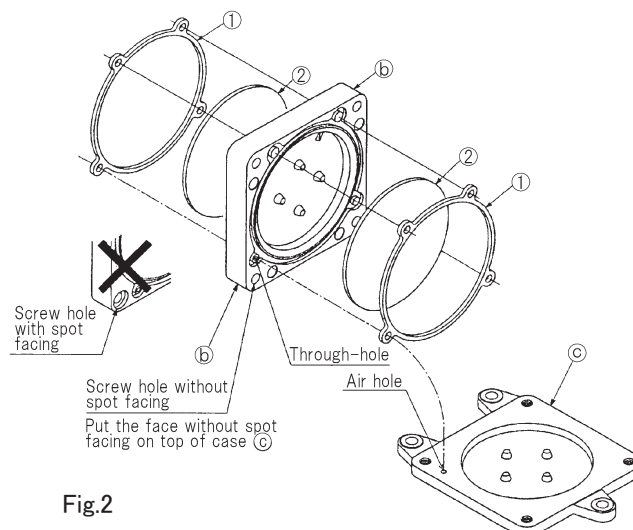

Fig.2
- Loosen and take out four assembly screws ① from the instrument body, and disassemble filter unit.
- Remove the used filters ② and packings ① from case ⑥, and clean out the inner surfaces of case ⑥ and ⑦.
- Replace new packings and filters with refer to Fig.2. Packings should be fit correctly into the grooves on both side of case ⑥.
- Then put case ⑥ on top of case ⑦ together as to coincide the position of the through-hole on case ⑥ with the air hole on case ⑦ correctly. (refer to Fig.2)
- Place the instrument body on top of case ⑥ piled with case ⑦.
Make sure that the relation of position between the installing leg of case ⑦ and the connectors on the instrument body are the same as that Fig.2 shows. And also make sure that convex parts under the instrument body are fit into the hollow parts (spot facings) on each corner of case ⑥.